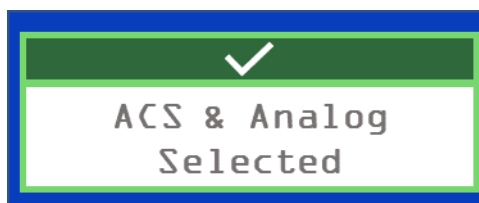

Figure 5. Zone Selection Confirmation
- c. Use **Scroll Up** and **Down** keys to highlight the **ACS & Analog** zone. Then, press the **Menu / OK** button. The message displayed in Figure 5 will be displayed momentarily confirming the zone selection. A green checkmark will be displayed next to the selected zone.